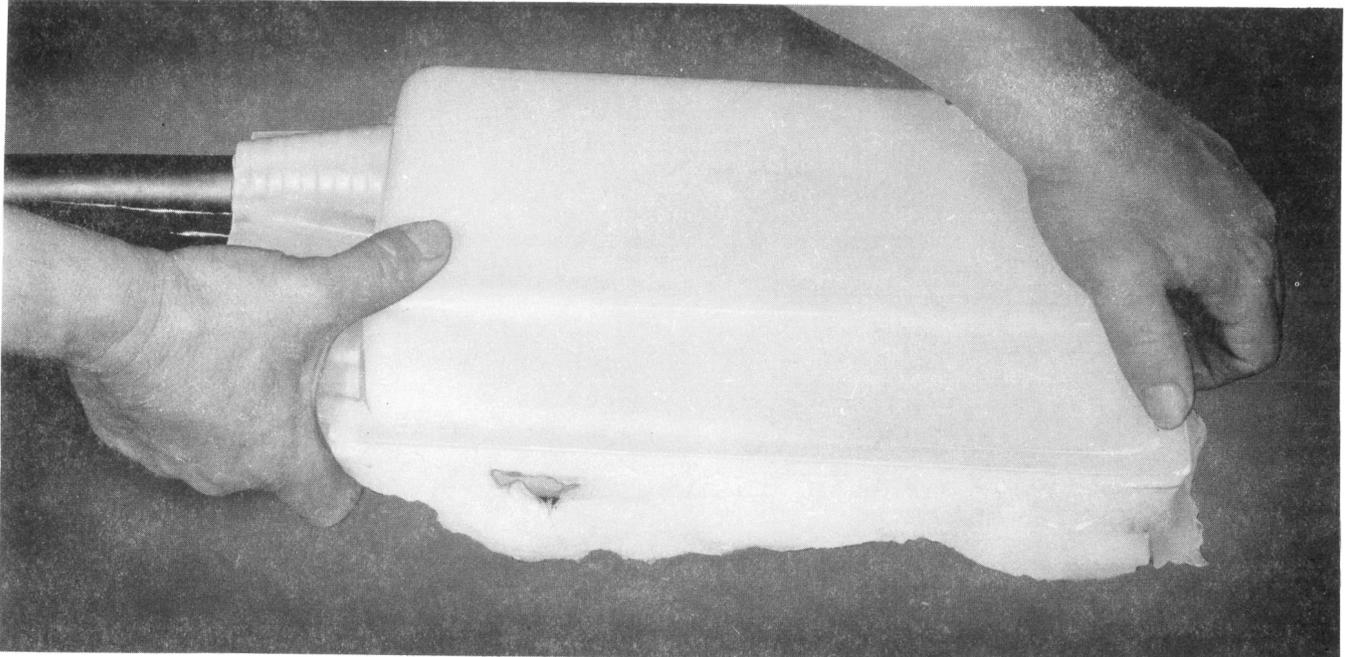

Fig. 27—Pressing Closure Shut
4.12 Close and press shell shut (Fig. 27). Assure service wires are placed in the channels provided. ♦(A maximum of three 2-pair or two